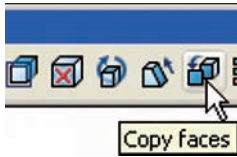

Fig. 19.11 The **Copy faces** tool icon from the **Solids Editing** toolbar
2. Click on the **Copy faces** tool in the **Solids Editing** toolbar (Fig. 19.11).